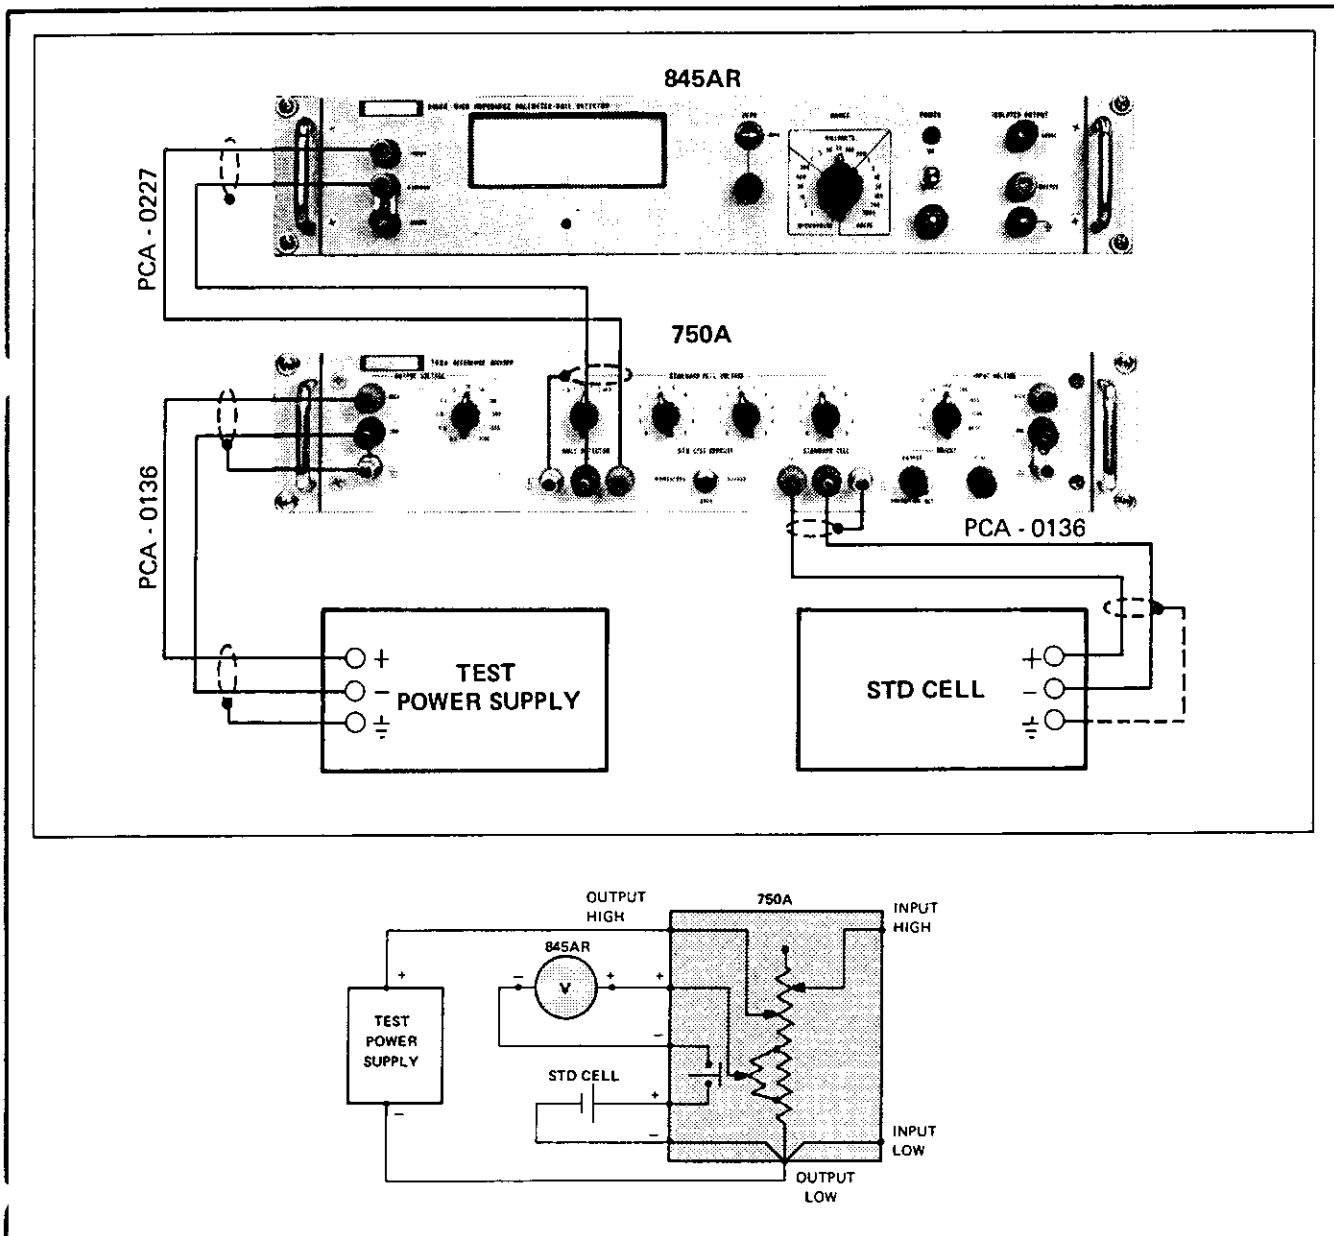

Figure 2-4. POWER SUPPLY CALIBRATION CONNECTIONS
- c. Make the equipment connections illustrated in Figure 2-4.